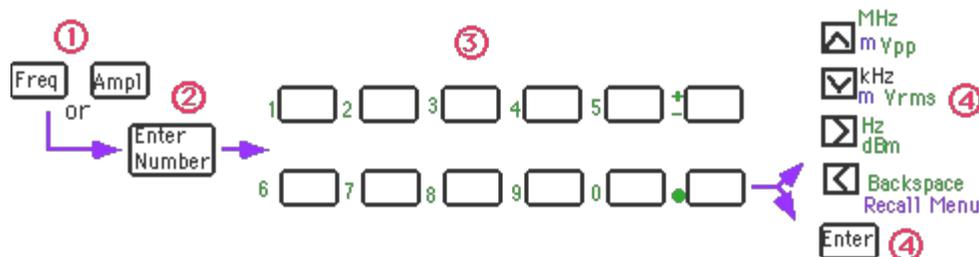

Figure 6: Entering numbers using the "Enter Number" mode.
3. Use the 'Enter Number' mode. Press 'ENTER NUMBER' key, followed by the number (see green number keys on the front panel) and the units, and then press 'ENTER' key(see Figure 6). To cancel the number mode, press 'SHIFT' and 'CANCEL' keys.